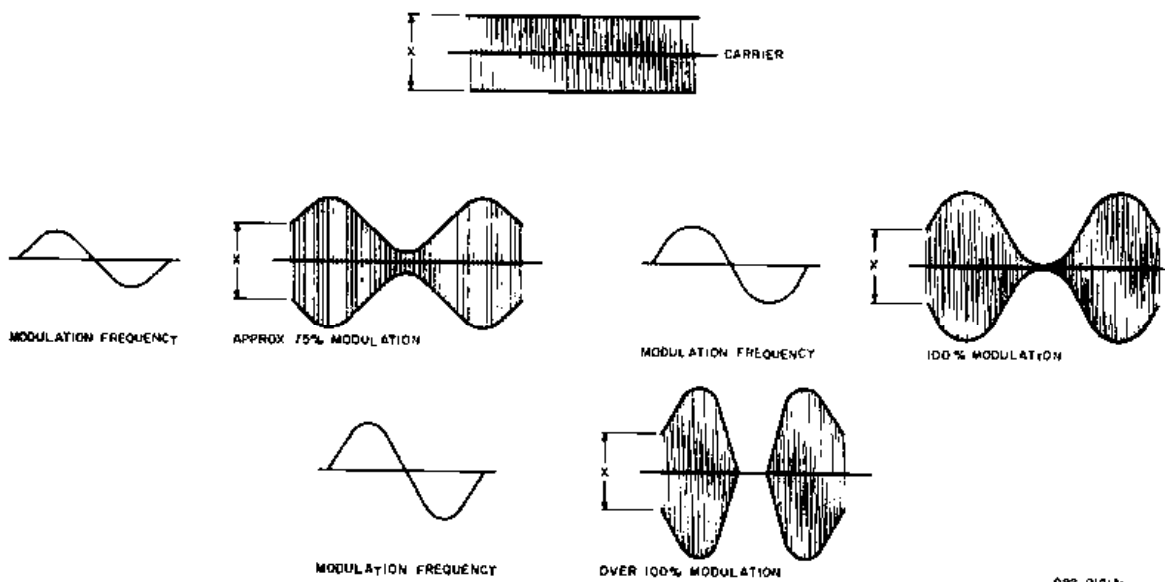

Figure 7. Carrier Modulation Patterns
3. While talking in a normal voice level two to three inches from the microphone and observing the meter, advance the MIKE control clockwise until a peak indication is observed during "talk" periods which is slightly below the indication noted in step 11 of paragraph 5-2. This provides 75% to 90% AM modulation. Refer to figure 7 for modulation patterns if it is desired to use a scope.